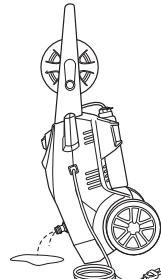

Fig. 25
5. Drain the water from the washer (Fig. 25)